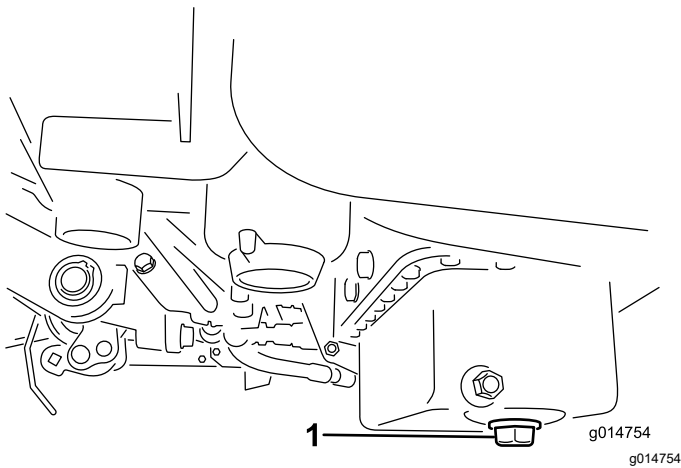

Figure 29
1. Remove the drain plug and let oil flow into a drain pan. When the oil stops, install the drain plug (Figure 29).